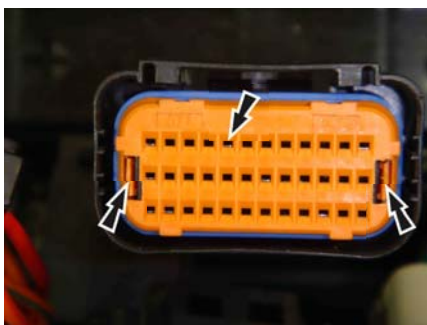

Fig. 3
4. Remove the orange cap by pressing the small orange tabs on the side apart and pulling the orange cap off. See Fig. 3